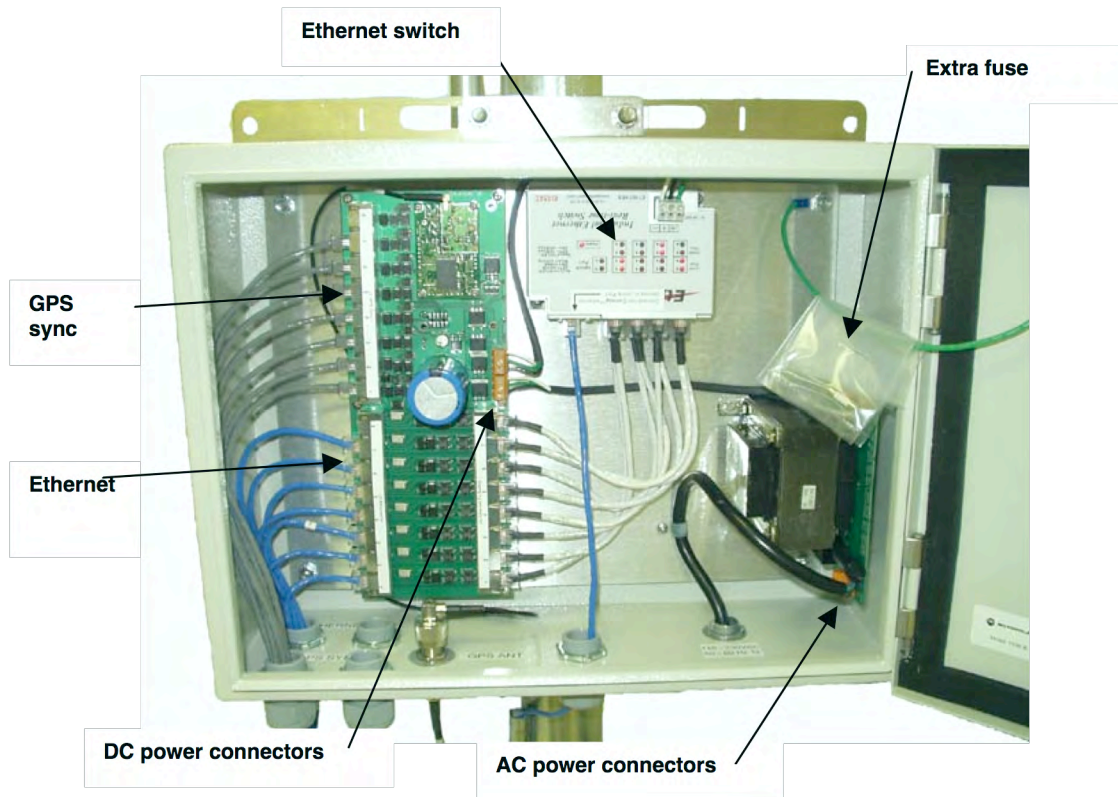

Figure 131: Canopy CMM2, front view
- Connect the Ethernet cable from the first AP or BH to the **Port 1** in the J3 ports in the CMM2. This port is the *master* Ethernet port for the CMM2 and should be connected first in all cases. Figure 131 on Page 341 is a photograph of a properly wired CMM2.
11. Connect the GPS sync cable from the first AP or BH to the **Port 1** in the J1 ports in the CMM2. See Figure 131 on Page 341.